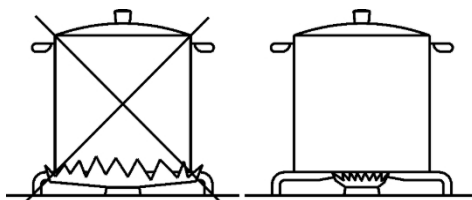

Fig. 1
- use the appropriate pots for each burner (see table below and Fig. 1).